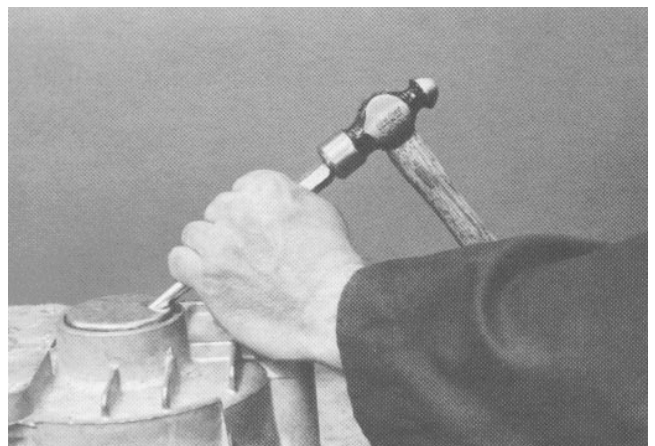

Figure 28
10. If unit has an expansion plug, remove it by driving a pointed punch through the plug about 3/8 inch (10 mm) from the outer edge. When the hole is large enough, insert a large screwdriver through it and pry the plug outward (Fig. 28).